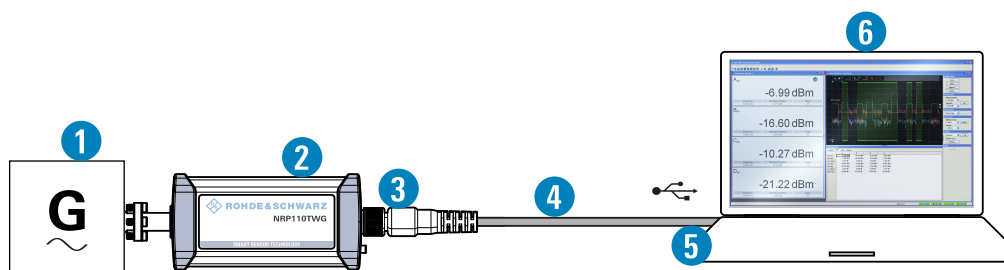

Figure 5-1: Setup with an R&S NRPV
1. Connect the power sensor to the computer as shown in Figure 5-1.